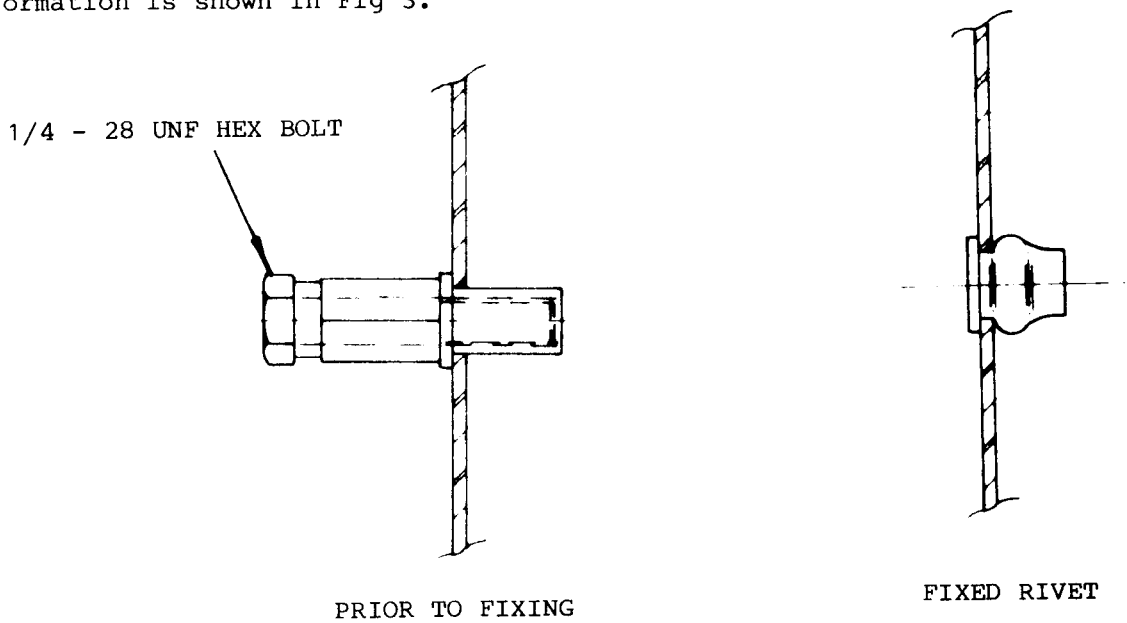

FIG 3 - USING THE TAP RIVET INSERTING TOOL
11. To use the tool, assemble it to the tap rivet as shown in Fig 3A, together with a 1/4 inch-28 UNF Hex Hd Bolt and insert the assembled items into the prepared hole (see sub-paragraph 8b). With the rivet flange held firmly against the panel, hold the hexagon spacer with a spanner and tighten the bolt. The completed rivet formation is shown in Fig 3.